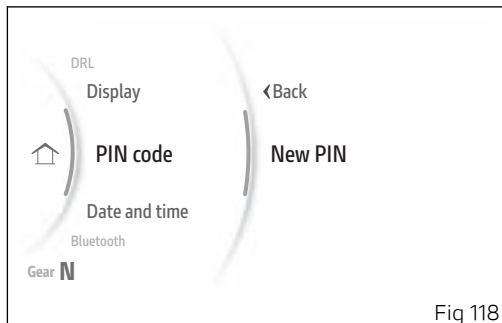

Fig 118
- From the Interactive Menu, use buttons (1) and (2) to select the item "Setting menu" and press ENTER (3).
- Select the "PIN Code" item and press ENTER (3).
- Select the "New PIN" item (Fig 118) and press ENTER (3).